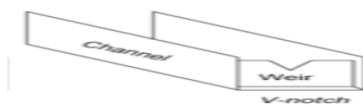

Fig 3: Types of notches in a channel
- 3.1. Determine the coefficient of discharge for rectangular notch of different operating conditions like partial opened, half opened and full opened of the pipe flow for different cross-sectional notches in fig.3
- 4.1 Determine the coefficient of discharge for Triangular notch different operating conditions like partial opened, half opened and full opened of the pipe flow for different cross-sectional notches in fig.3
- 4.2 Calculate the factors influencing such as turbulence, Reynolds number, and shape of the orifice in triangular notch fig.3